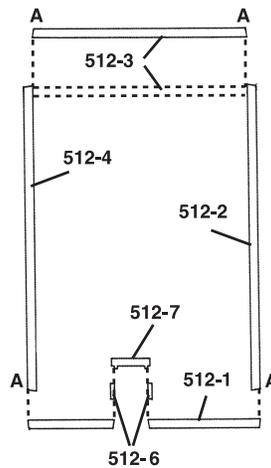
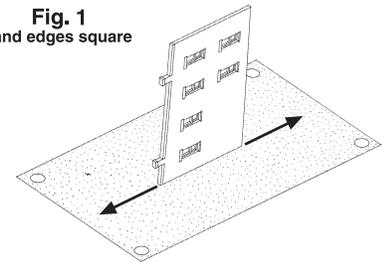

Fig. 1
Fig. 2
Wall edges are angled (draft angles) to make removal from mold easier. Draft angles need to be sanded square to allow for proper assembly and a flush fit with adjoining Walls. To square edges, thumbtack a piece of 120-grit sandpaper to a board and draw Wall back and forth evenly on sandpaper until edge is square and level (Fig. 1). Edges to be sanded square do not have brick detail and are marked "A" (Fig. 2).
- Glue Side Panels to Entry Door (Fig. 2 and 3).